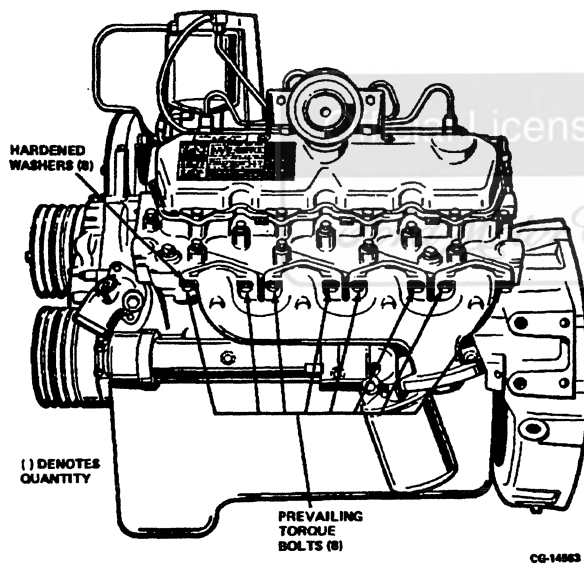

Figure 2.4. Removal – Left Exhaust Manifold
1. Left Exhaust Manifold – Remove eight prevailing torque bolts and hardened washers, Figure 2.4. Remove the manifold and gasket.